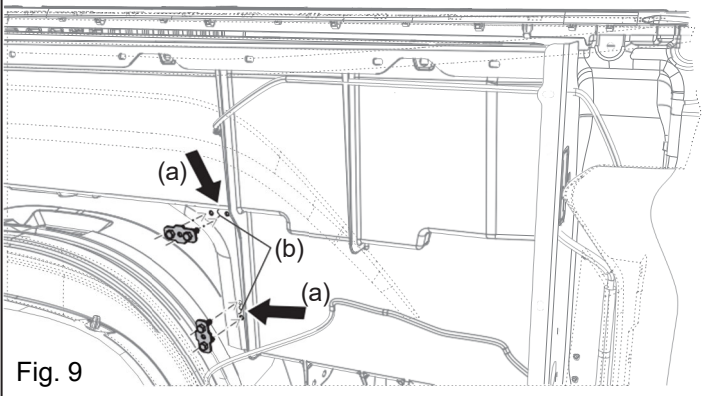

Fig. 9
- (a) Access the inside of the bed wall and locate the four drilled holes, Fig. 9. Clean surface area with shop towel. Caution that burrs and edges can be sharp. Careful to not crease fender liner.
- (b) Check that the area between the drilled holes where the adhesive must stick is clear of dirt and debris, Fig. 9.
- (c) Remove the protective film from the adhesive prior to installing each plate, Fig. 9. Install a bolt plate into each (2 total) pair of drilled holes, Fig. 9. Apply pressure to the bolt plate to ensure adhesion.